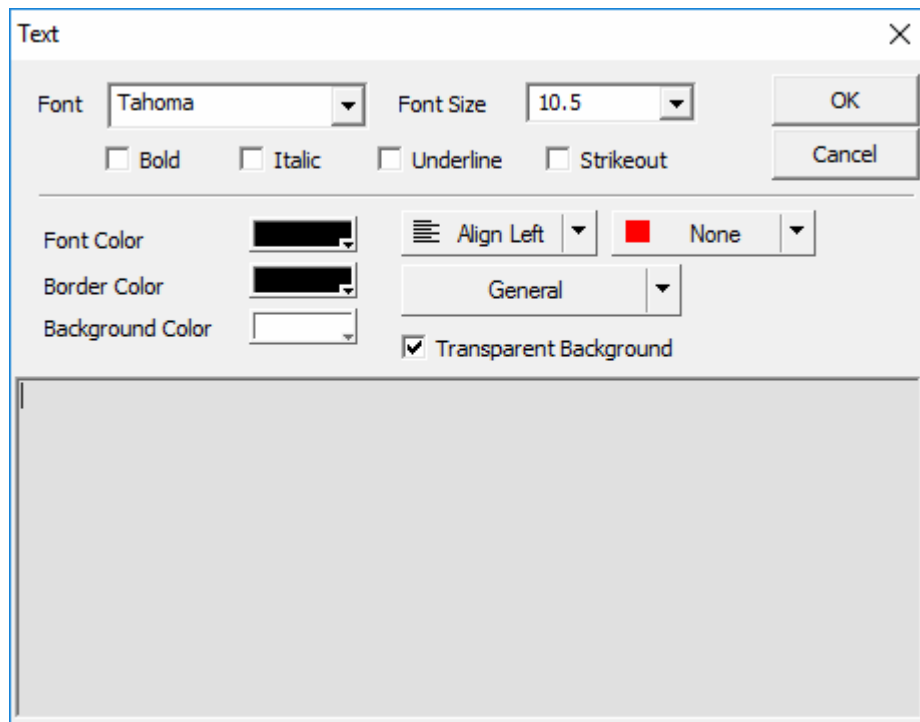

Figure 3-40 Dialog box "Text"
- Text Input: Click the icon  and move the cursor to the Drawing area and the cursor will be in the  status, and then click at the location to input text. And input the words in the pop-up “Text” dialog box as shown in Figure 3-40 and click “Yes” to finish the operation. Right-click the input box to perform operations like copy, cut and paste, etc.